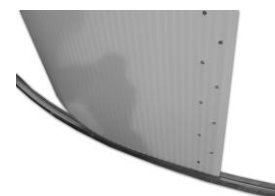

fig. 9
b) Start unrolling the wall, placing the bottom corner of the wall in the low metal guide (M) (fig. 9).